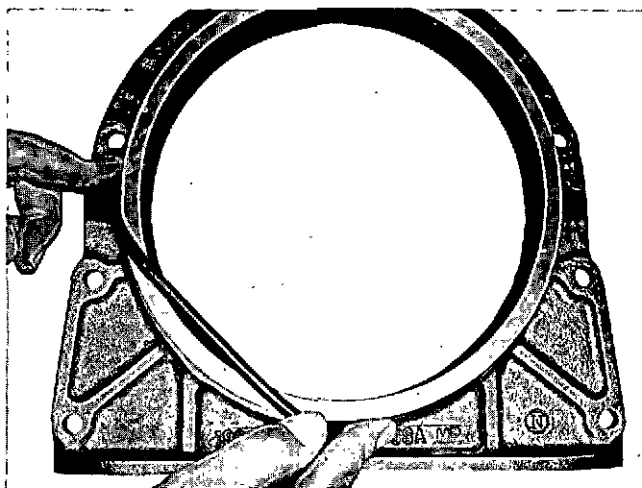

Fig. 14-1-10, V414217. Install rear cover "O" ring for wet-type clutch
9. If wet-type clutch rear cover is being used, lubricate new "O" ring and roll into groove on outside rear cover. Fig. 14-1-10.